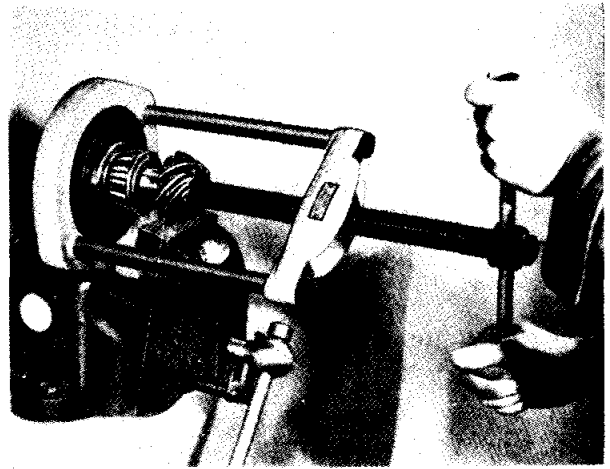

Fig. 23 Pressing the pinion head bearing on to the pinion shaft utilising the Churchill Tool No. TS1 and S4221 frame with slave ring.
- (vii) Press the pinion head bearing inner cone on to the pinion shaft (Fig. 23).